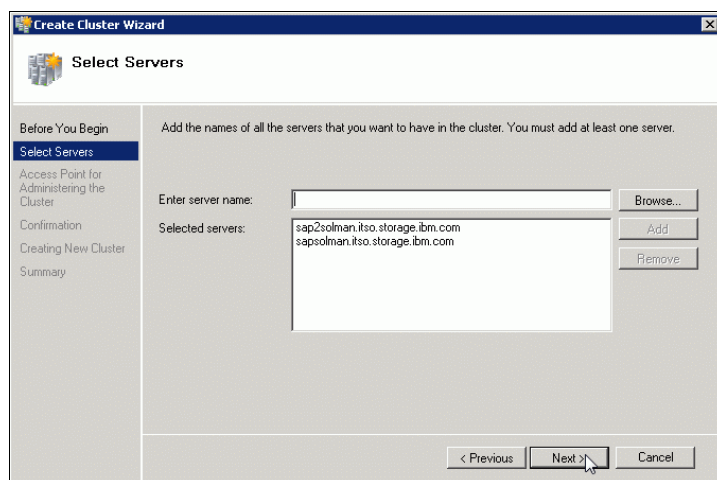

Figure 3-31 Selecting your nodes
6. Select all nodes that belong to the cluster (see Figure 3-31).